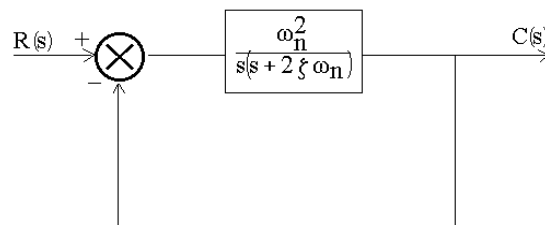

Fig. 8
Q.6 For the standard second order system shown in Fig.8, with $r(t) = u(t)$ explain how the time domain specifications corresponding to resonant peak and bandwidth can be inferred. (4)